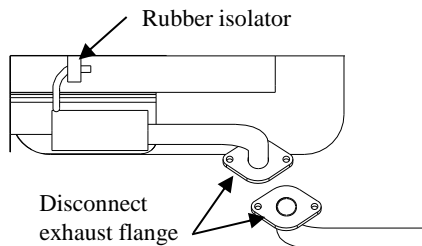

Figure 1.
①	Qty. (4)	Carriage bolt 7/16-14 X 1.50 GR5	③	Qty. (4)	Nut 7/16-14
②	Qty. (4)	Lock washer
- (2007-2011) Disconnect the exhaust at the flange. Both sides. Keep the fasteners. Figure 1.